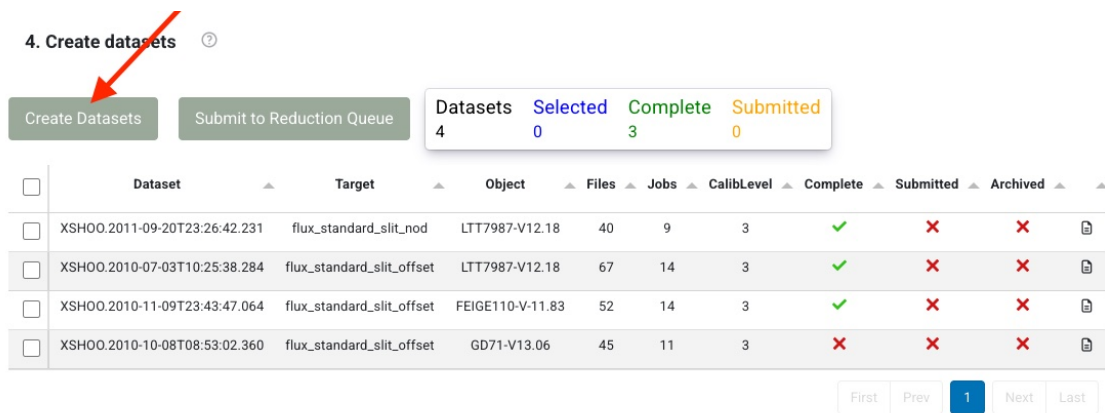

Figure 7: How to inspect the input data directory to create datasets.
4. Press ‘Create Datasets’. A list of datasets appears, one line for each set of science data (Figure 7).